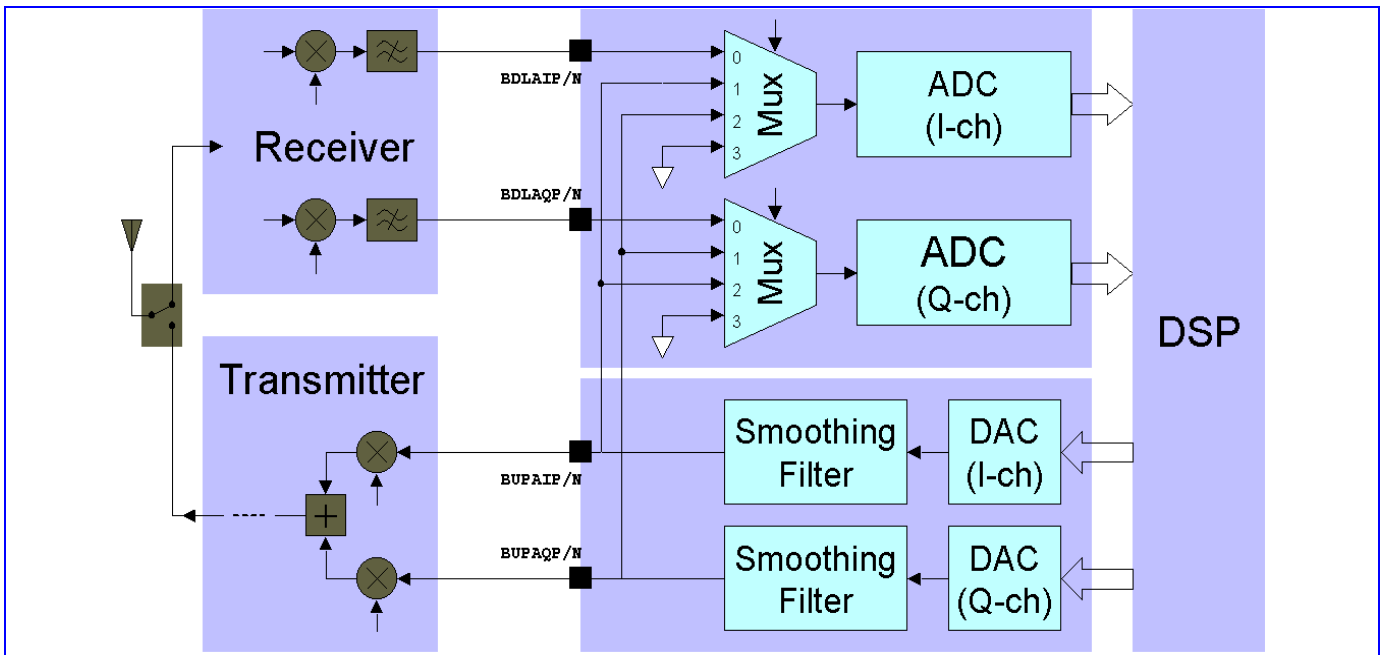

Figure 175 Base-band A/D and D/A Offset and Gain Calibration
The base-band downlink receiver (RX), together with the base-band uplink transmitter (TX) introduced in the next section, provides necessary analog hardware for DSP algorithm to correct the mismatch and offset error. The connection for measurement of both RX/TX mismatch and gain error is shown in **Figure 175**, and the corresponding calibration procedure is described below.